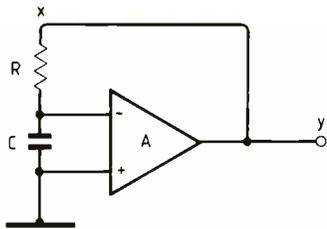
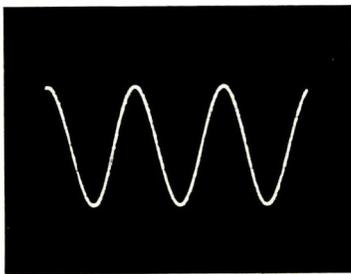

Fig.5. Op-amp oscillator for the minimalist: for practical reasons the grounded capacitor arrangement is very desirable.
Fig.6. Output waveform at 3kHz of the circuit in Fig.5 built with a 741 op-amp. The resistor is 19k Ω , the capacitor 1 μ F and the supply voltage \pm 15V.
Because of their numerous advantages, there has been considerable interest in the design of active-RC oscillator circuits with grounded capacitors. Besides a single grounded capacitor, our second circuit uses only a single resistor and a single operational amplifier. The circuit, therefore, uses the minimum number of passive and active elements (Fig.5).
For the circuit of Fig.5 to generate and sustain oscillations, equation 8 must equal unity. Substituting (1) into (8) and rearranging, then
The circuit of Fig.5 was built and tested with a 741 op-amp, polystyrene capacitors and metal film resistors. A typical waveform is shown in Fig.6.